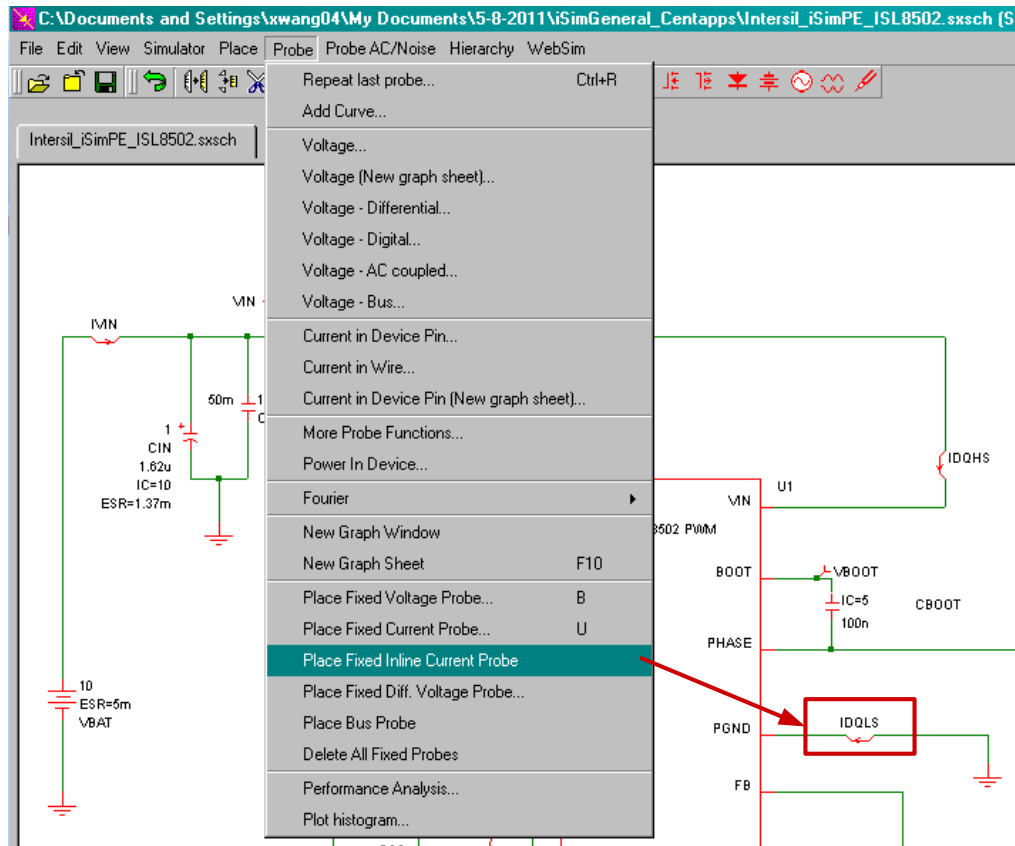

FIGURE 21. PLACE FIXED INLINE CURRENT PROBE
2. Fixed inline current probes - plots the current flowing through it. Go to **Probe** -> **Place Fixed Inline Current Probe** and put it in the wire, as shown in Figure 21.
The following example shows how to use this feature to plot four different probes (V_{OUT} , I_{LOAD} , $I_{L_{OUT}}$ and $I_{C_{OUT}}$, shown in Figure 21) in one graph. The last three probes will be plotted in the same grid as they are all current probes. First, open the **Edit Probe** window. Check the box next to **Use separate graph** and name the graph. Use the same name, for example, "OUTPUT" for all these probes. Then, assign I_{LOAD} , $I_{L_{OUT}}$ and $I_{C_{OUT}}$ to the same grid. To do that, check the box next to **Use separate grid** and use the same name; for example, "I_LOAD" for these three probes.